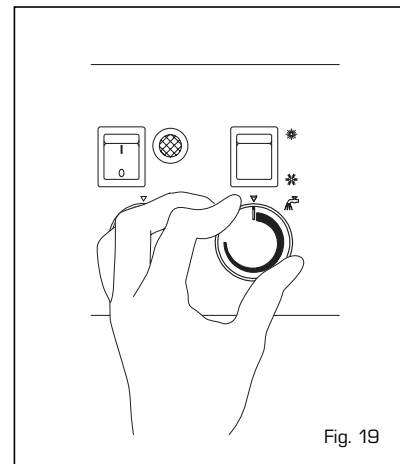

Fig. 19
- The heating temperature can be adjusted by turning the knob of the thermostat (fig. 19).